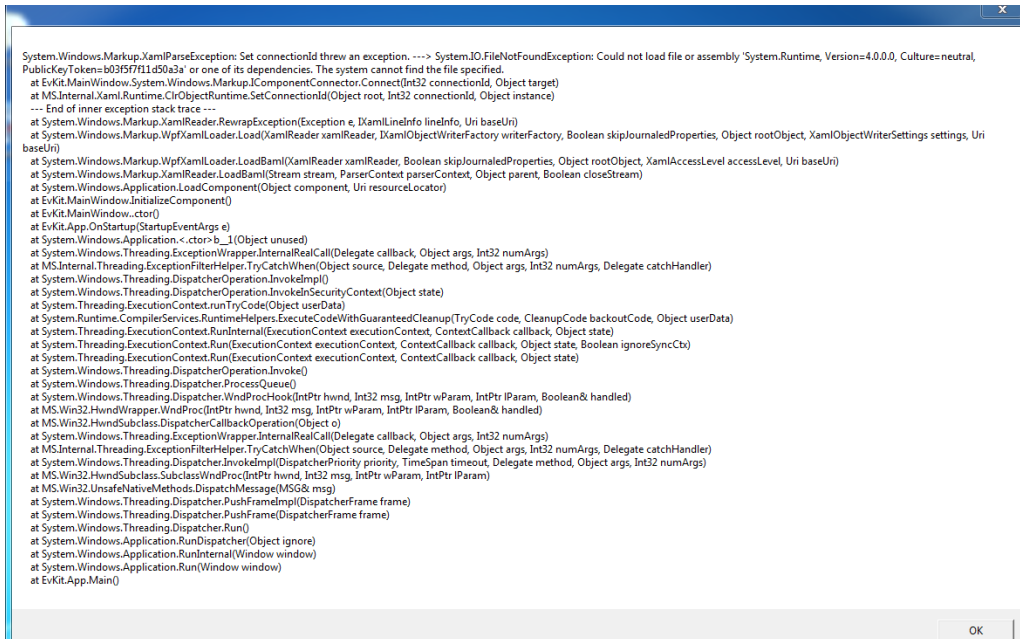

Figure 74. A Windows error message that indicates that Windows .NET installation is out-of-date.
- If an error message shown in Figure 74 appears, the Windows .NET installation is not up to date. Please run Windows update or install the required .Net version manually to resolve the issue.